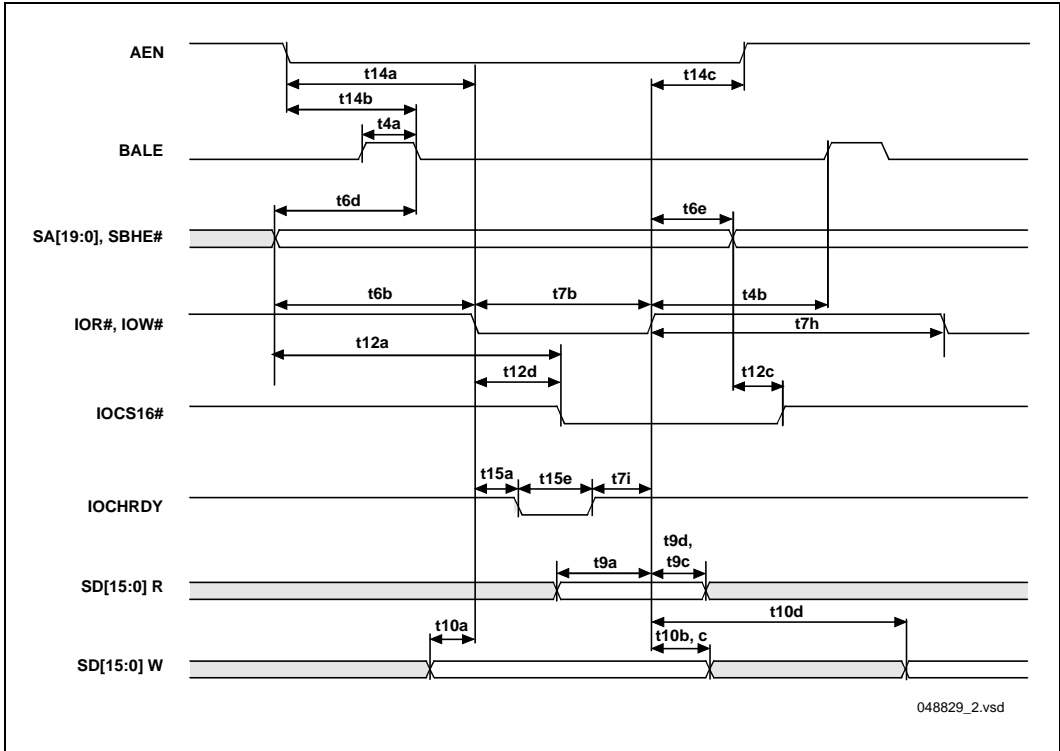

Figure 44. 16-Bit I/O Slave Timing (PIIX4E as Master)
2. These cycle timings are based on the STrobe period as indicated in Figure 44. However, Table 13 in the PIIX4E datasheet refers to cycle time strobe periods as 120ns, 90ns and 60ns for mode 0, 1, and 2 respectively. The datasheet timings are different because they are based on the number of PCI clocks per cycle, not the actual period between the rise and fall of STROBE.